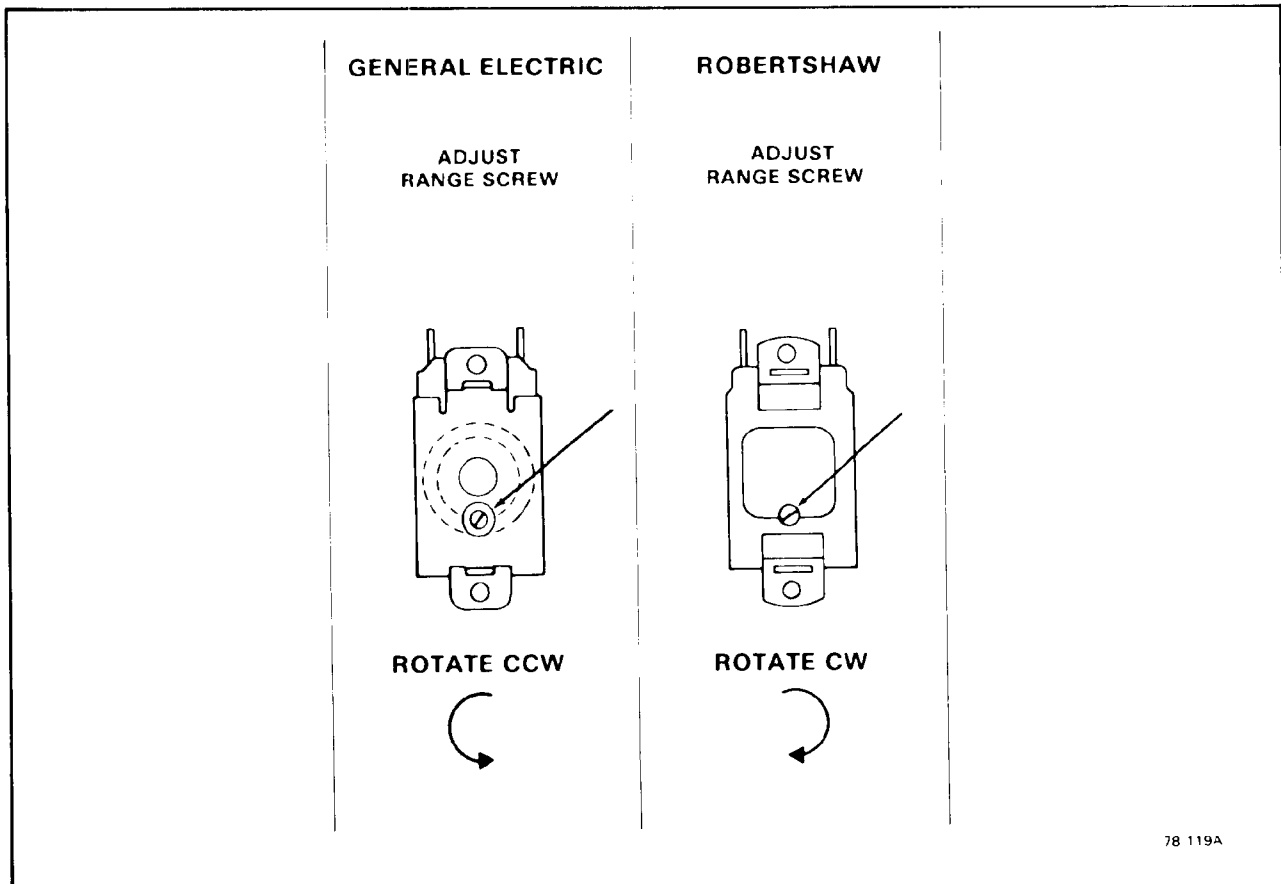

Figure 4-1. Adjustment of the Temperature Control.
See Figure 4-1 for location and direction of rotation, clockwise (CW) or counterclockwise (CCW), of the adjusting screws on the Temperature Control, the adjustment is to be performed.